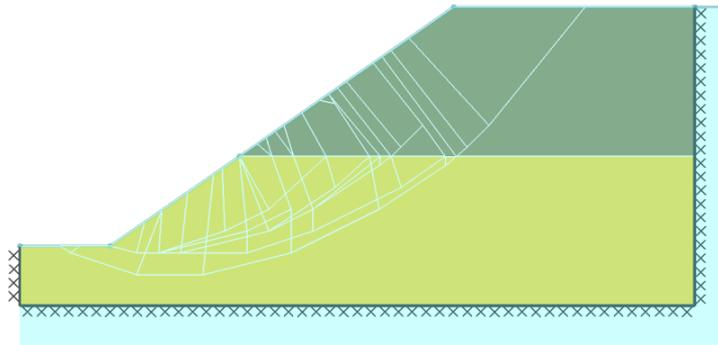

Figure 4: Failure Mechanism For Two Layer Slope Problem with $r_u = 0.3$.
3. Click **Solve** or  to analyse the problem. This solve now returns an **Adequacy factor** of 1.272 together with the failure mode shown in Figure 4). The factor of safety on strength is thus determined to be 1.272¹